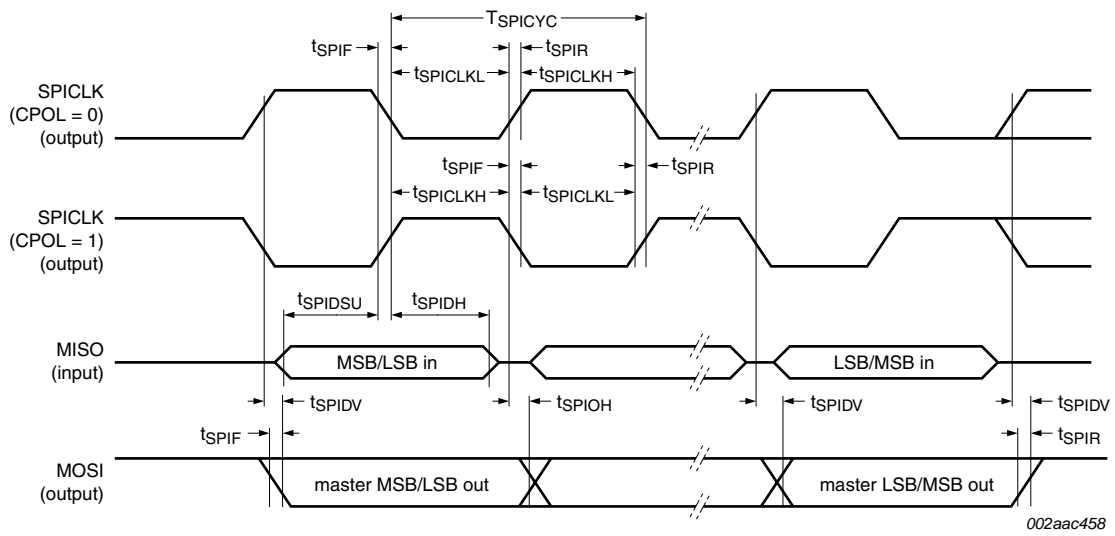
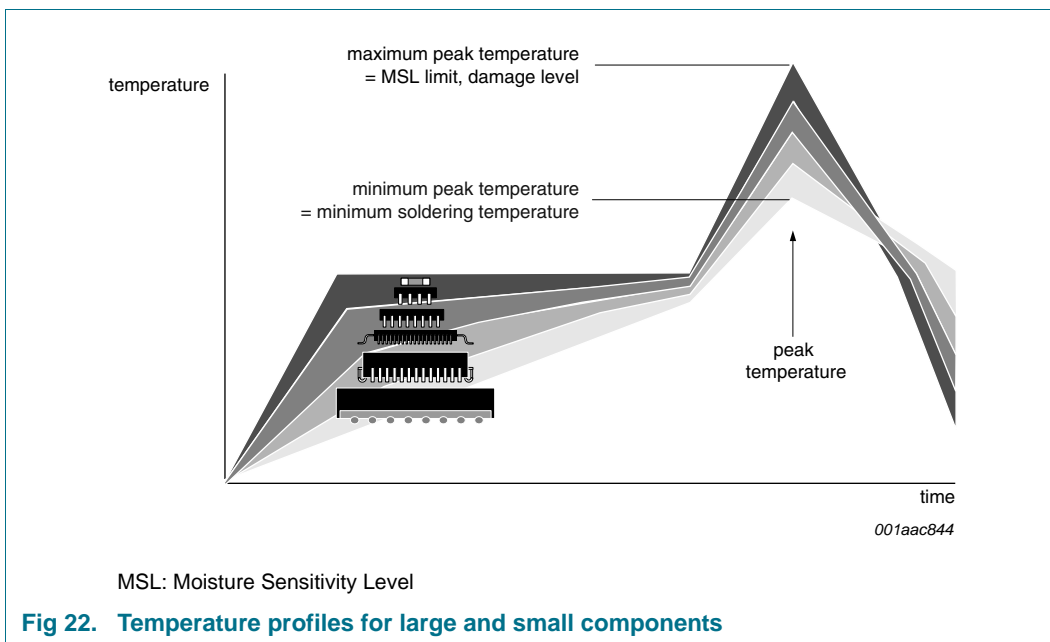

Fig 20. SPI master timing (CPHA = 1)
Fig 22. Temperature profiles for large and small components
- Lead-free versus SnPb soldering; note that a lead-free reflow process usually leads to higher minimum peak temperatures (see Figure 22) than a SnPb process, thus reducing the process window
Studies have shown that small packages reach higher temperatures during reflow soldering, see Figure 22.
<ul style="list-style-type: none"> • Type number SC18IS603IPW (basic type SC18IS603) removed from data sheet. • Type number SC18IS602IPW (basic type SC18IS602) removed from data sheet. • Deleted (old) Section 7.2, “External clock input (SC18IS603)” • Table 11 “Limiting values”: deleted (old) table note [1]. Refer to Section 16.3 “Disclaimers”, sub-section “Limiting values”. • Table 12 “Static characteristics”: <ul style="list-style-type: none"> – I_{DD(oper)}: removed characteristics for condition f = 12 MHz – I_{DD(oper)}: removed characteristics for condition f = 18 MHz – I_{DD(idle)}: removed characteristics for condition f = 12 MHz – I_{DD(idle)}: removed characteristics for condition f = 18 MHz • Table 13 “Dynamic characteristics”: <ul style="list-style-type: none"> – deleted sub-section “External clock input” – deleted “Variable clock” Min and Max columns – f_{SPI}: changed Condition from “4.5 MHz” to “1.843 MHz” – f_{SPI} Max. value changed from “4.5 MHz” to “1.843 MHz” – T_{SPICYC}: changed Condition from “4.5 MHz” to 1.843 MHz” – T_{SPICYC} Min value changed from “222 ns” to “543 ns” – t_{SPICLKH}: changed Min value from “111 ns” to “271 ns” – t_{SPICLKL}: changed Min value from “111 ns” to “271 ns” – t_{SPIDV}: removed characteristics for condition “4.5 MHz” – t_{SPIDV}: removed condition “3.0 MHz” • Figure 19 “SPI master timing (CPHA = 0)” modified: changed from “T_{CLCL}” to “T_{SPICYC}” • Figure 20 “SPI master timing (CPHA = 1)” modified: changed from “T_{CLCL}” to “T_{SPICYC}” • Deleted (old) Fig. 22. “External clock timing”